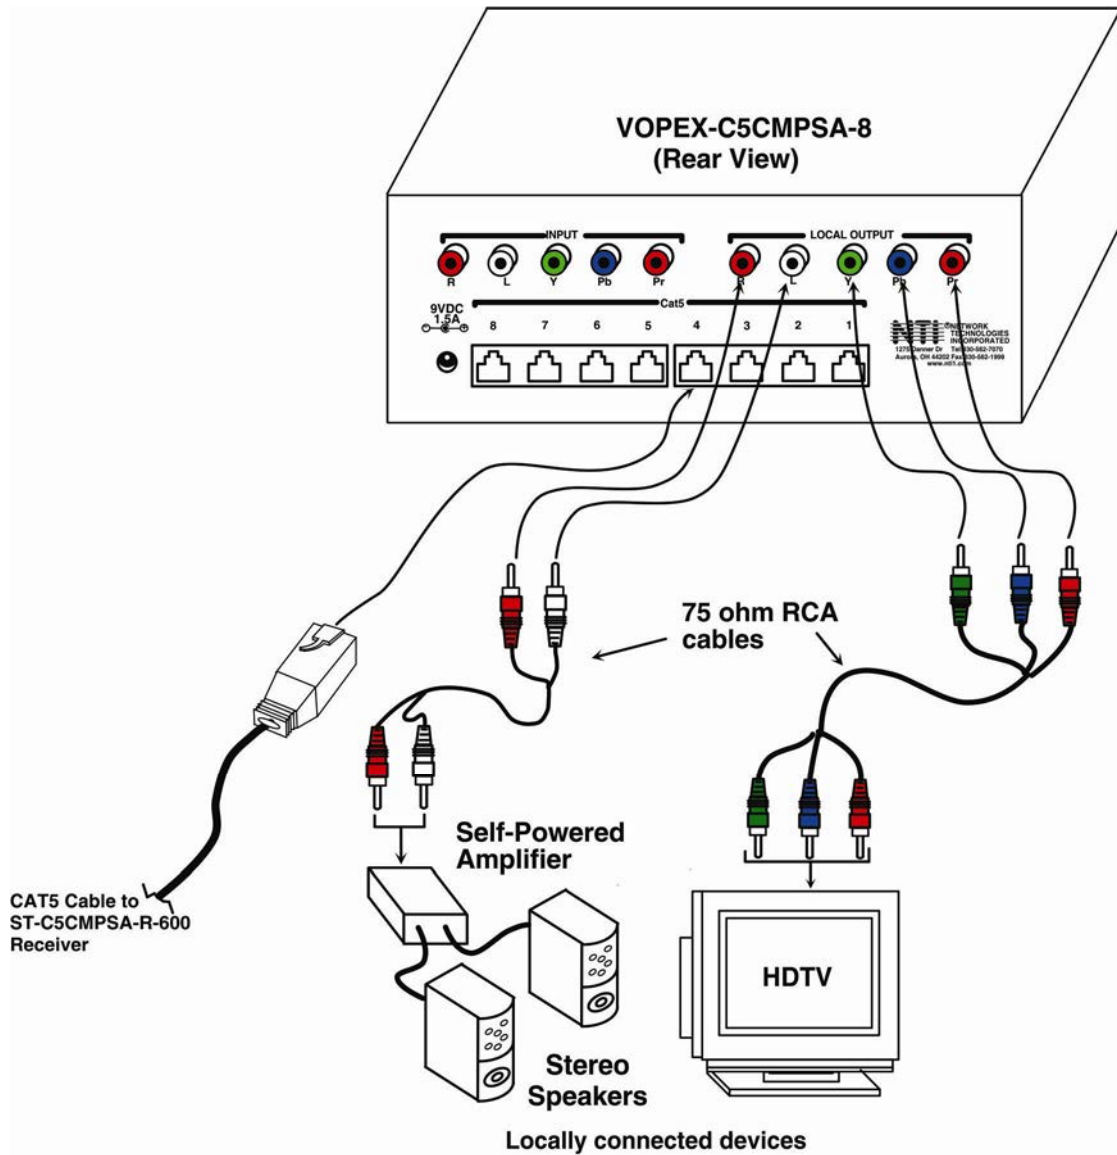

Figure 4- Connect local HDTV and stereo speakers
2. Connect the local user to the VOPEX-C5CMPSA-x (see Fig. 4)
3. Connect a CAT5 cable to any one of the “Cat5x” ports on the VOPEX-C5CMPSA-x. (See Fig. 4) When properly inserted the cable end should snap into place.